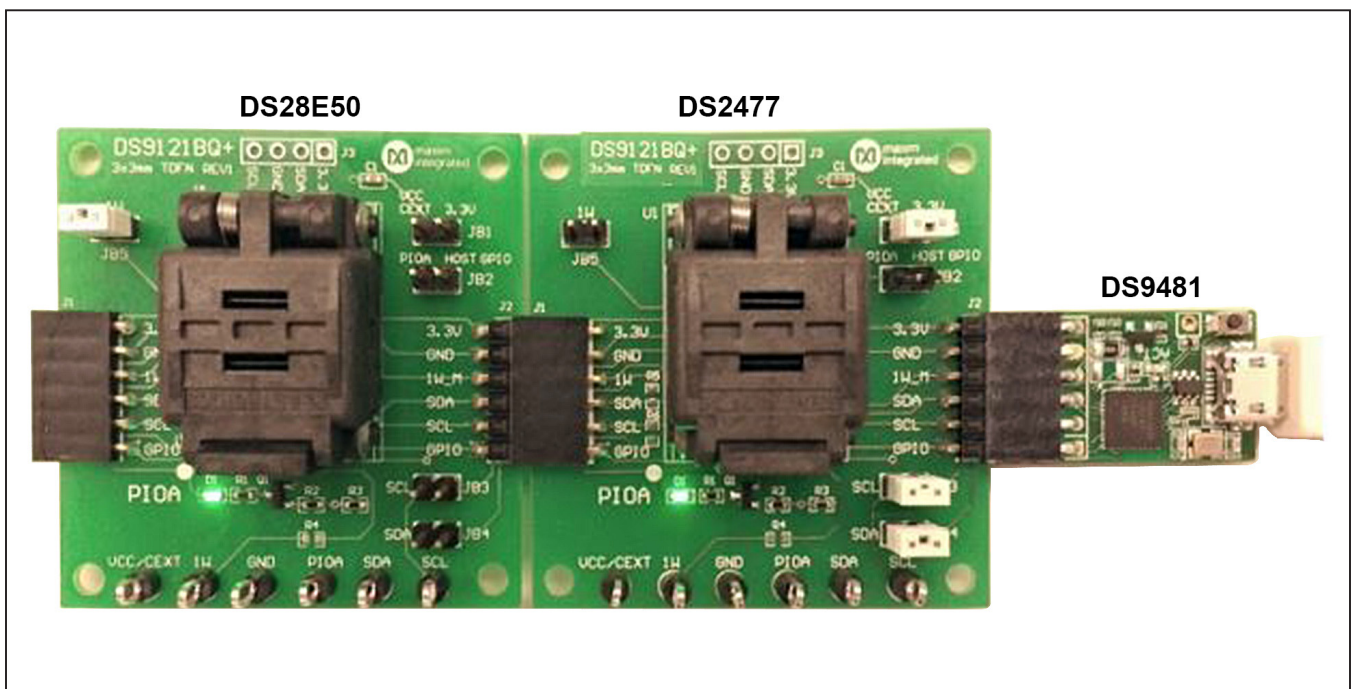

Figure 10. DS9481 Connected to DS2477 and DS28E50
- d) Connect the 1st DS9121BQ J2, 6-pin male plug, into the DS9481P-300#, 6-pin female socket per Figure 10.
- e) Connect the 2nd DS9121BQ J2, 6-pin male plug, into the 1st DS9121BQ J1, 6-pin female socket per Figure 10.
- f) For the 1st DS9121BQ+ socket boards that contains the DS2477, configure jumpers JB3 to use SCL, JB4 to use SDA and JB1 to use 3.3V per Figure 10.
- g) For the 2nd DS9121BQ+ socket board that contains the DS28E50, configure jumpers JB5 to use 1W per Figure 10.
used to communicate with the DS28E50. The hardware configuration in Figure 10 is used for evaluation of the DS28E50 combination.